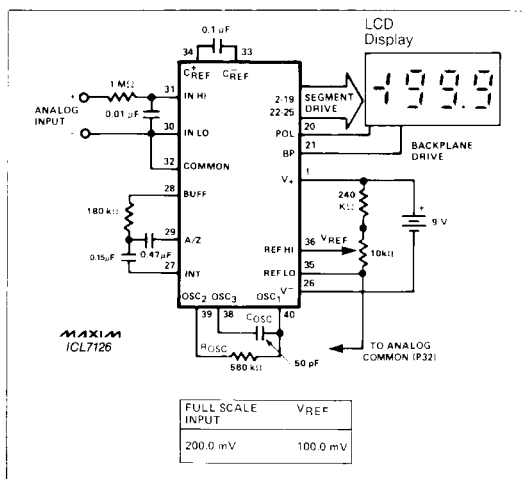

Figure 1. Maxim ICL7126 Typical Operating Circuit
**Note 3:** Unless otherwise noted, specifications apply at  $T_A = 25^\circ\text{C}$ ,  $f_{\text{CLOCK}} = 16\text{kHz}$  and are tested in the circuit of Figure 1.
(V+ = 9V; TA = 25°C; fCLOCK = 16kHz; test circuit - Figure 1; unless noted)
**Note 8:** Test condition is VIN applied between pins IN-HI and IN-LO through a 1MΩ series resistor as shown in Figure 1.
**Note 12:** 1MΩ resistor is removed from circuits in Figure 1.